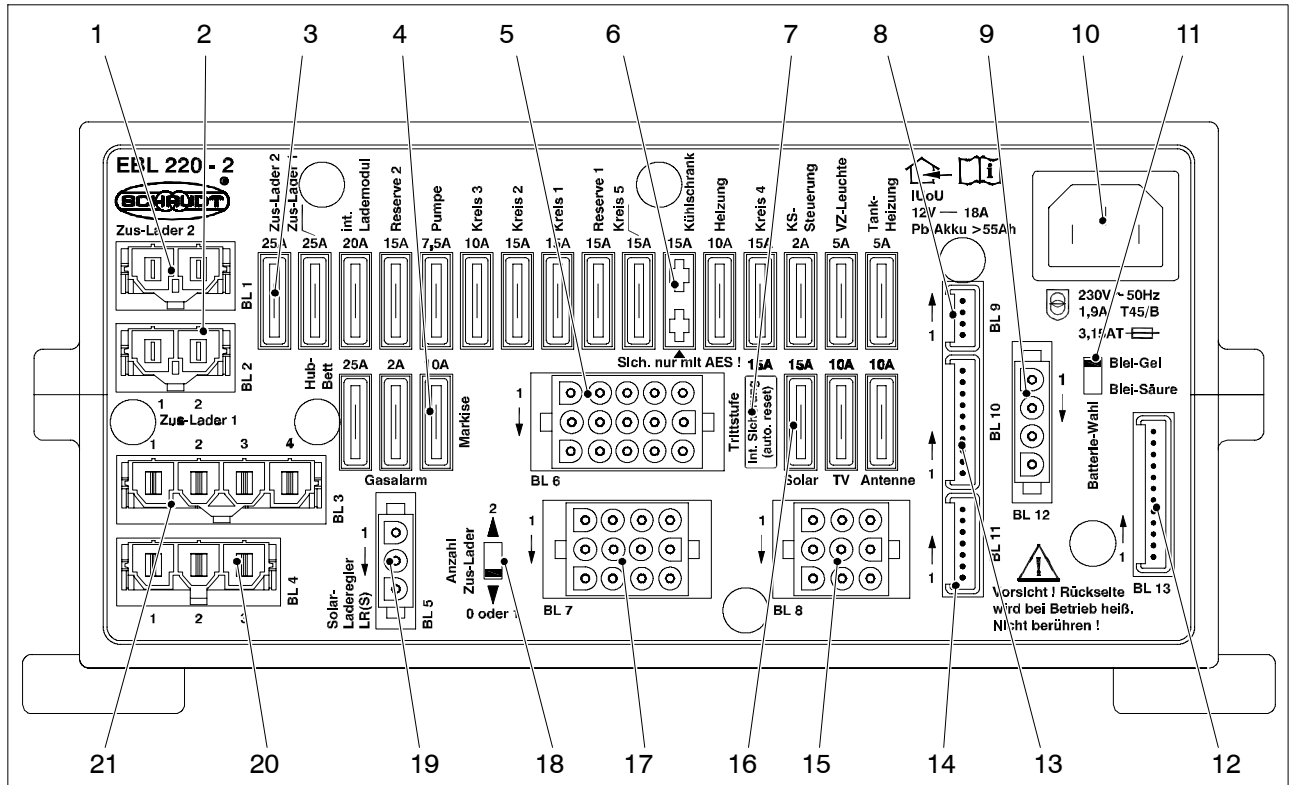

Fig. 2 Electroblock EBL 220-2 front view
- You must ensure that the battery selector switch (Fig. 2, Pos. 11) is set to the correct position for the type of battery being used.
- You must ensure that the AES fuse (Fig. 2, Pos. 6) is only inserted if an AES refrigerator is connected to the system. Otherwise, the living area battery may get totally discharged. Battery damage is possible.
- You must ensure that the switch for the number of auxiliary chargers (Fig. 2, Pos. 18) is set in the correct position.
- ▶ Move the battery selector switch (Fig. 2, Pos. 11) into the relevant position using a thin object (e. g. ball-point pen):